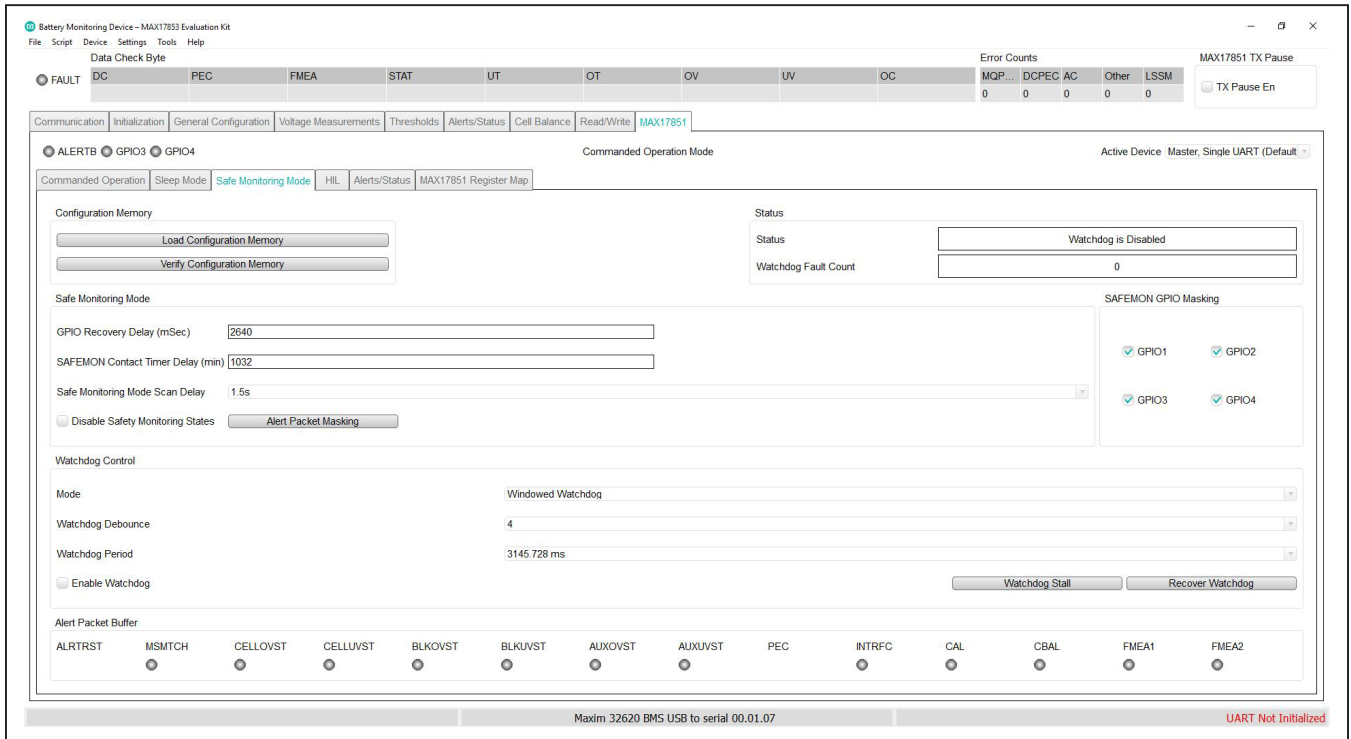

Figure 14. Safety Monitoring Mode tab
- 4) Select the **Safe Monitoring Mode** tab (Figure 14) and in the **Watchdog Control** group box, set the **Mode** to **Challenge/Response Watchdog**.
- 6) Select the **Safe Monitoring Mode** tab (Figure 14) and in the **Safe Monitoring Mode** group box, set the
- 5) Select the **Safe Monitoring Mode** tab (Figure 14) and in the **Configuration Memory** group box, click the **Load Configuration Memory** button.